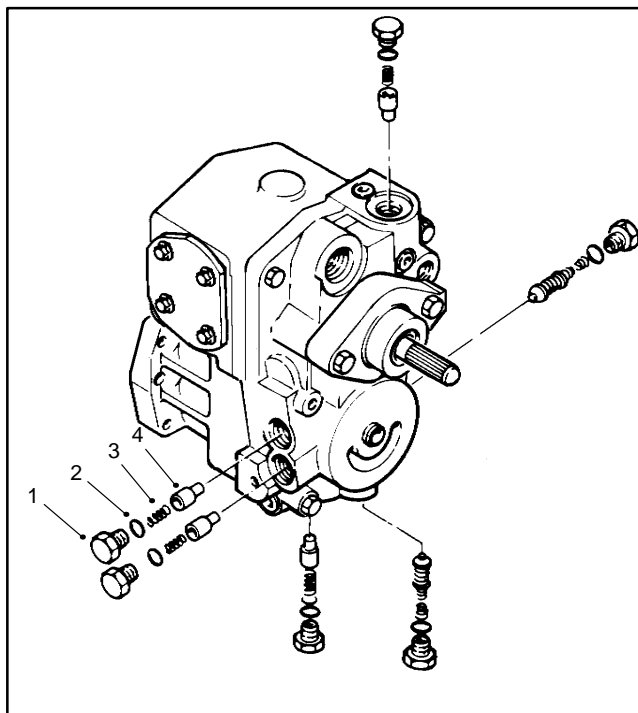

Figure 80
2. Remove the filter by-pass valve hex plug (Fig. 80).